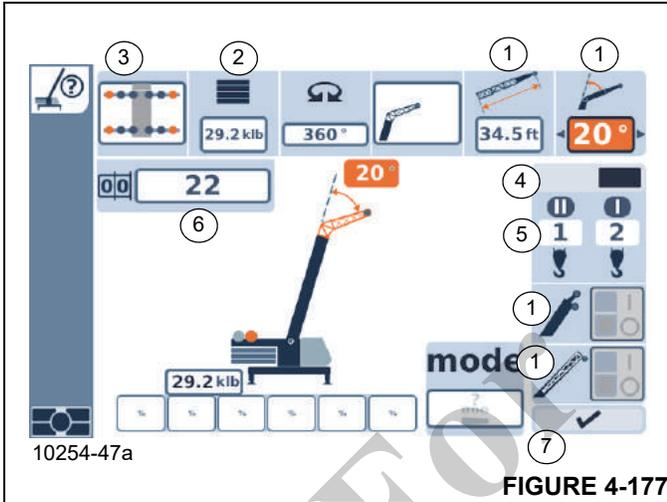

FIGURE 4-177
- Counterweight (2, Figure 4-177)
- Boom system (1)
- Outrigger span (3)
- Select one of the desired components (1, Figure 4-177) to (4).